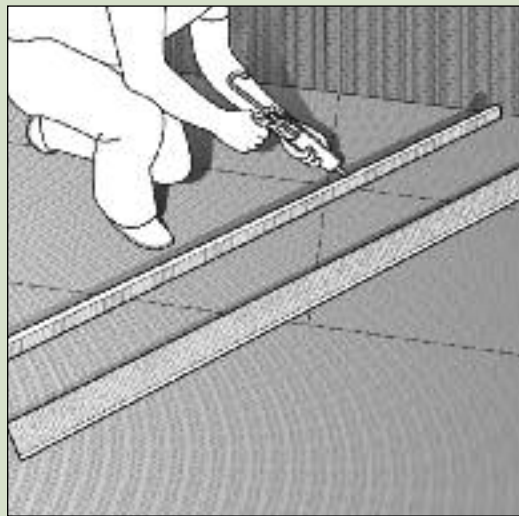

fig 1
- 1 Cut two pieces of *Dukkaboard*® to match the desired size of box. Run a bead of Purocol adhesive down the two edges that are to be stuck together. **See fig 1.**